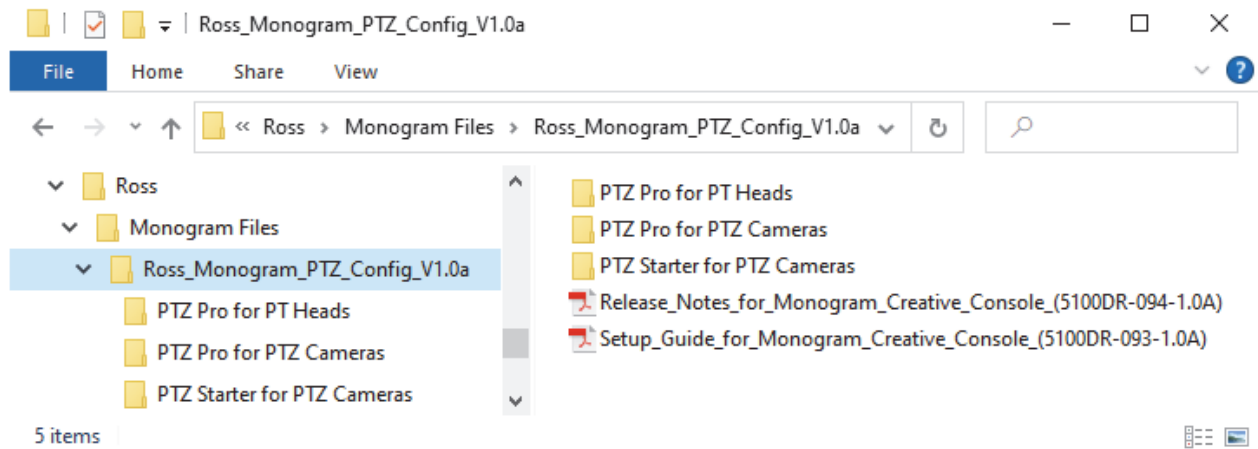

Figure 83 - Monogram Files Folder, showing Current Version Number (in this example, **V1.0a**)
1. Navigate to the folder that contains the currently-installed Monogram files (Figure 83).
2. Note the version number at the end of the folder name. For example, in Figure 83, the version number is **V1.0a**.